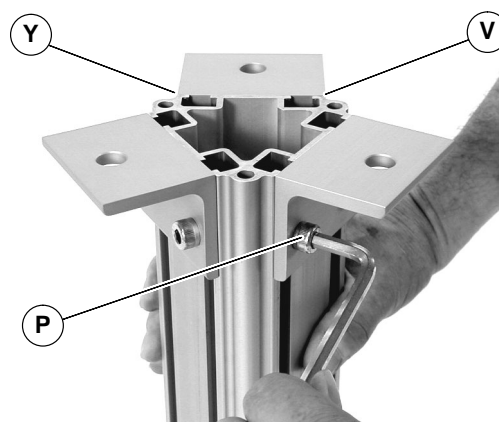

Figure 13
5. Align the foot bracket edge (Y of Figure 13) with the bottom edge of the trileg post (V).
<p>WARNING</p> <p>Failure to secure screws (P) of Figure 13) may cause conveyor sections to drop down, causing severe injury.</p> <p>TIGHTEN ALL SCREWS (P) AFTER ADJUSTMENT.</p>
6. Tighten socket screws (P of Figure 13) to 100 in-lb (11 N-m)